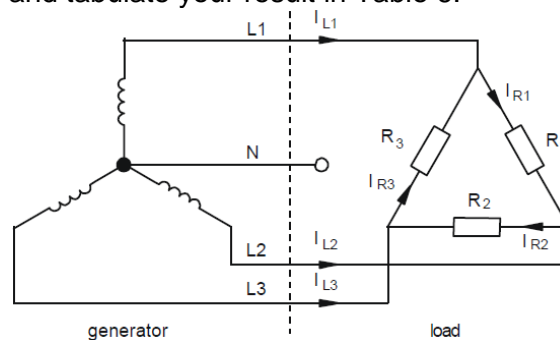

Figure 14
- 1) Connect the circuit as shown in Figure 14